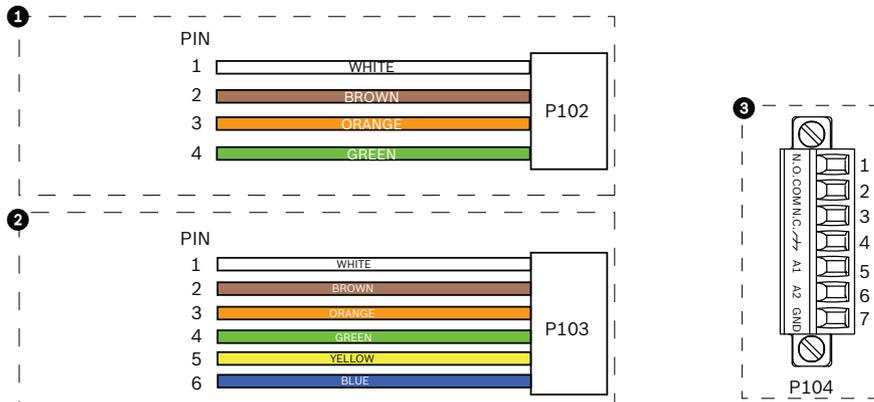

Figure 2.10 Alarm and Relay Connector Plugs
7. To connect supervised alarms and relays, attach the appropriate wires to their terminals on the P104 connector on the Pipe Interface Board (see Figure 2.10, above). In addition, refer to Section 4 Alarms and Relay Connections, page 37 for more details on wiring alarms and relays.